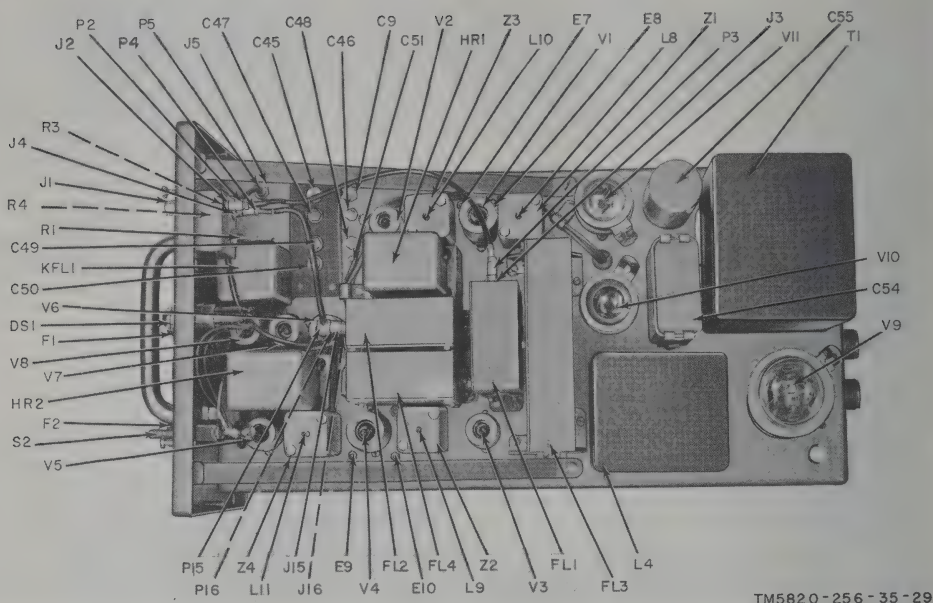

Figure 3-10. Modulator, Radio MD-239A/GR, top view, parts location.
*a. Fsk-Modulator.* Figures 3-5 through 3-9 show the location of all parts in the MD-239/GR; figures 3-10, 3-11, and 3-12 show the location of all parts in the MD-239A/GR. Filters FL1 through FL4 and impedance networks Z1 through Z4 each is replaced as a unit. Filter KFL1, 3.2-mc trap, crystal heaters HR1 and HR2 are also replaced as units. Refer to TM 11-5820-256-20 to replace crystal Y1 or Y2.